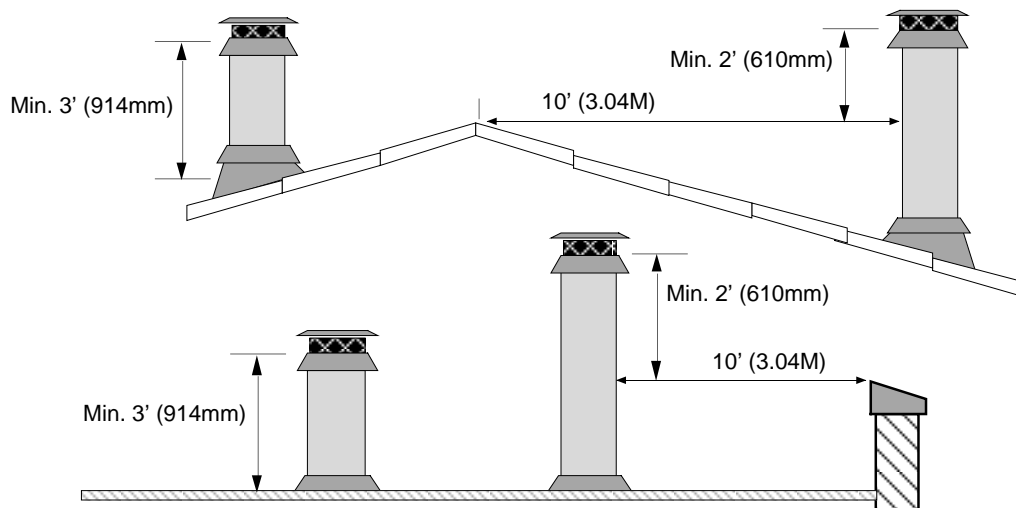

Figure 5
- Must terminate at least 3' above the roof and at least 2' above any portion of the roof within 10' (see Figure 5).